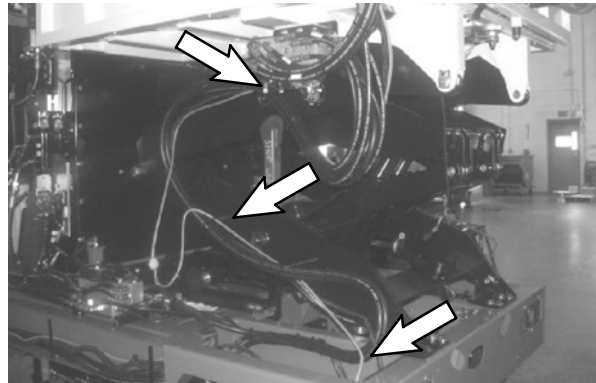

FIG. 26
42. Route the arrow stick cable assembly (2) along the hopper harness and up the hopper lift. Use cable ties (12) to secure the arrow stick cable assembly to the wire harness. Refer to Fig. 26.